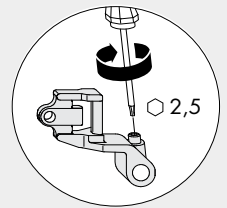

Figure 2
- B** Top hinge pin (8/14) must be secured in the stay hinge (10/16) with a grub screw (torque  $2.5 \pm 0.25$  Nm) (see Figure 2).